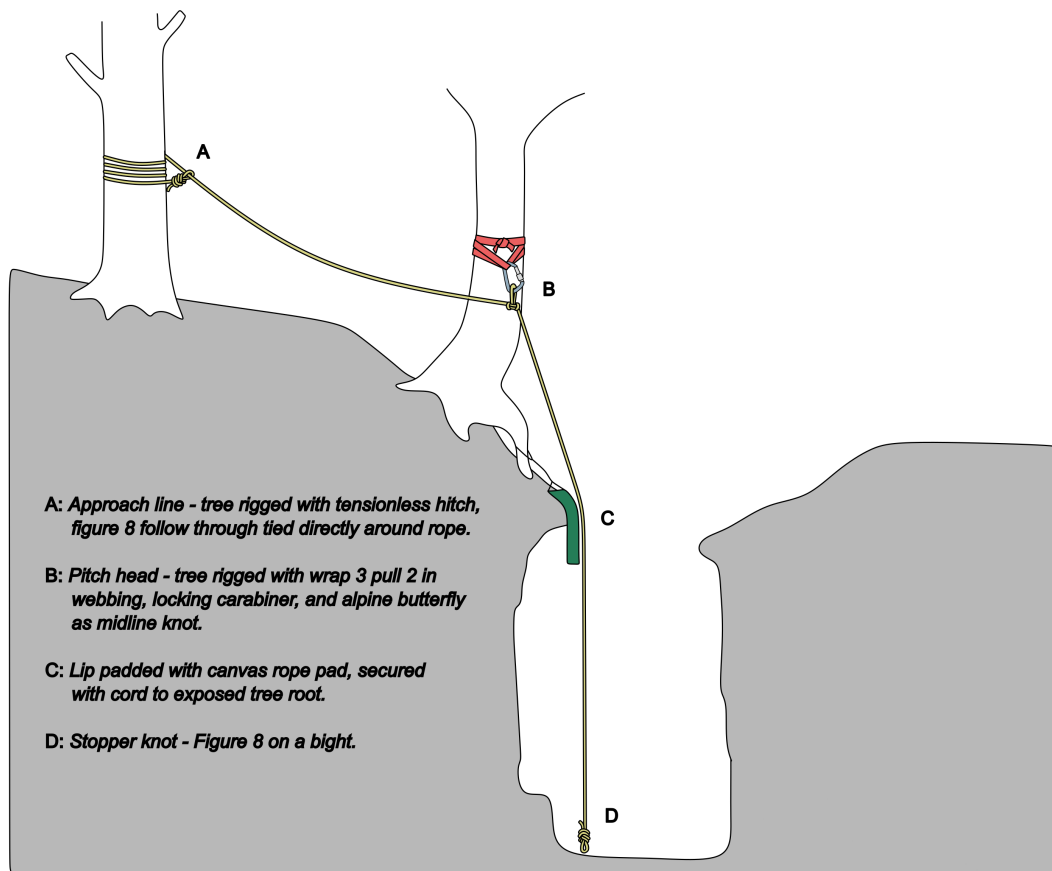

Figure 31: Rigging an entrance pit with trees
- A safety line is shown in figure 31. In this configuration, make sure that when the safety line is loaded the intermediate knot (around the main line) will not collapse. An Alpine Butterfly is a great knot for this application.